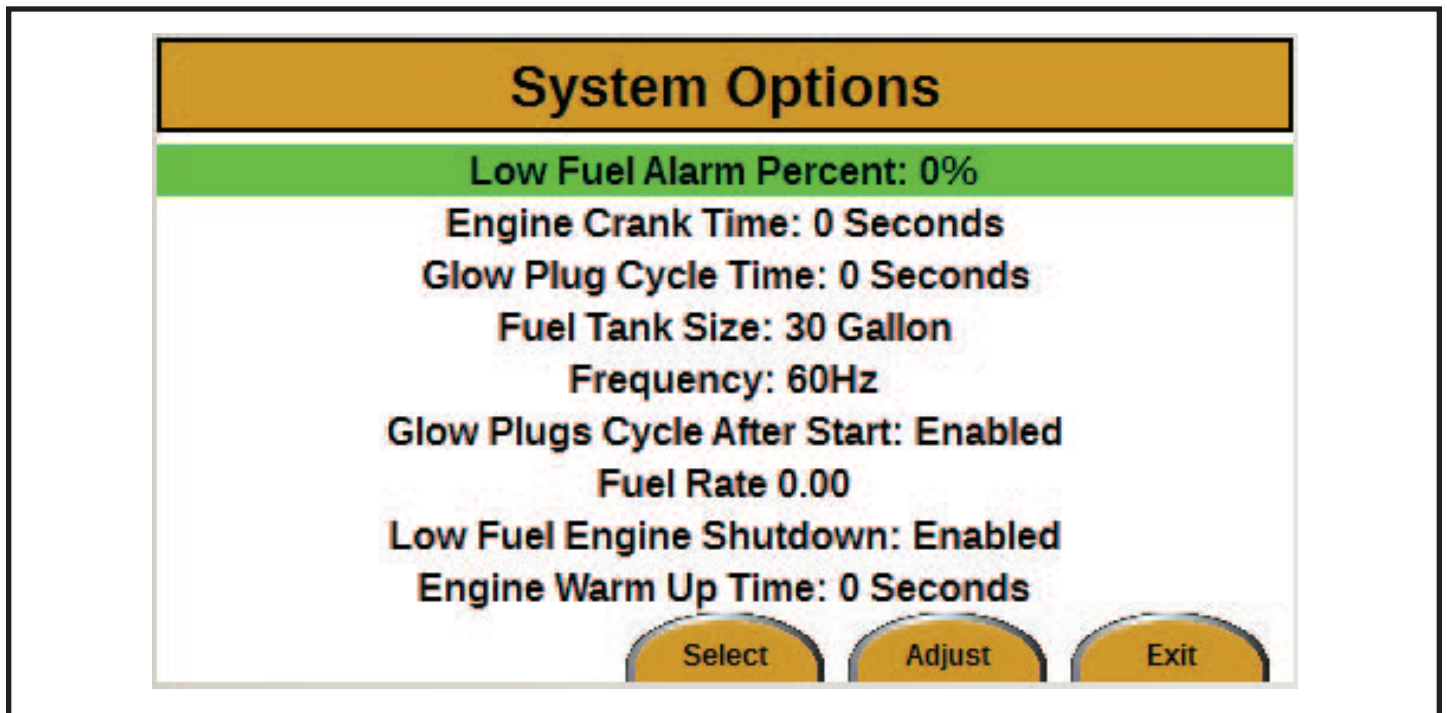

Figure 16
5. Press the Enter button. The System Options screen will appear (see Figure 16).